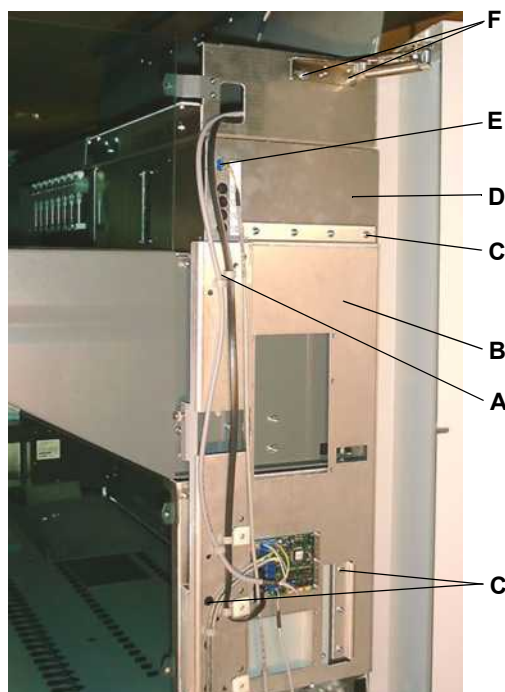

Fig. 8-16 Carrier plate
- 2 Open top cover (A).
- 3 Open the right access door (B).
- 4 Remove the four screws (F in Fig. 8-16, 8-16) and the right access door.